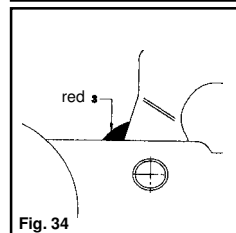

Fig. 34
- If only a red indicator is visible (Fig. 34/Item 3), then this may have the following causes: